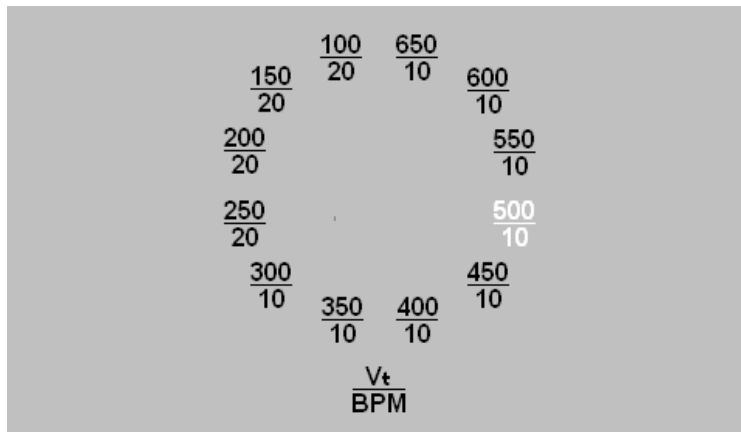

Figure 6
3. DO NOT connect the patient circuit to a patient until the ventilator is turned on (Step 4.1.5) and Start-up Selection dial (Shown in Figure 6) is displayed.
Do not connect the patient circuit to a patient before the ventilator is turned on and the Start-up Selection dial (Figure 6) is displayed.
Once the ventilator is turned on, a selection dial with 12 Vt/BPM pre-set values (Shown in Figure 6) will be displayed on the screen. This eliminates the need for a potentially long set up before starting ventilation.